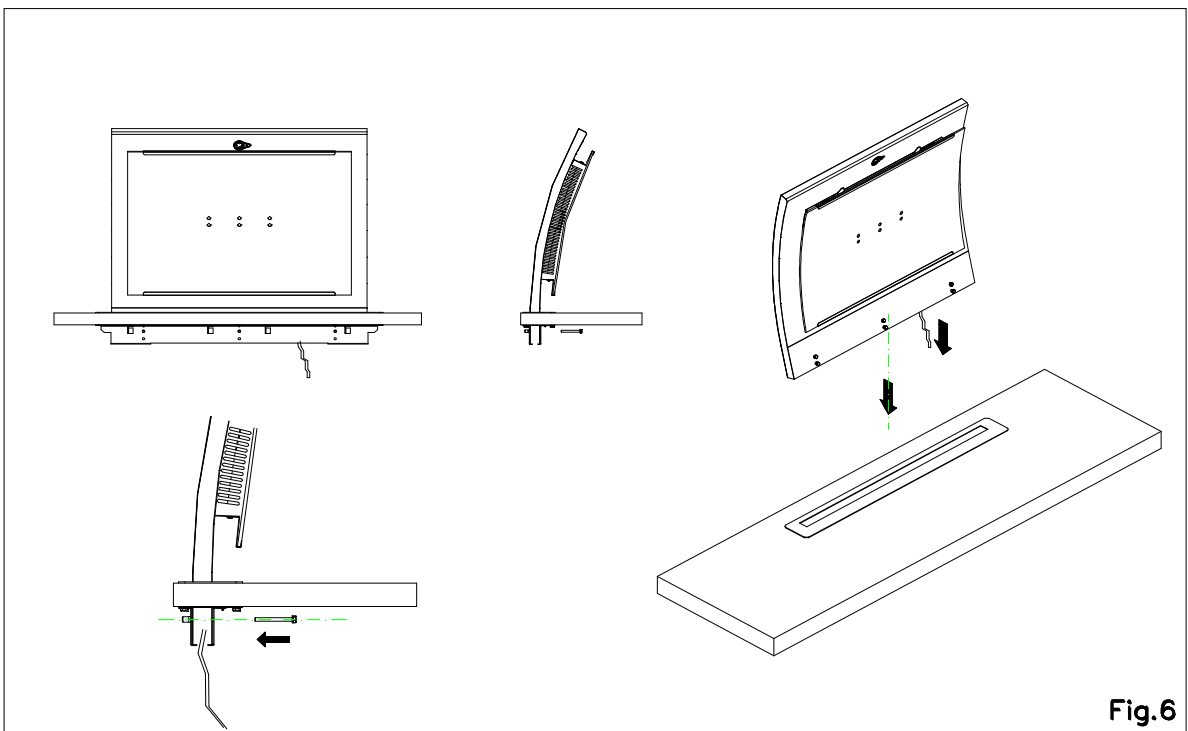

Fig.6
- 5) Insert the hood structure (Fig. 6) in the assembled structure, taking care to first pass the cables. Now secure the hood structure to the anchoring support with the three screws.